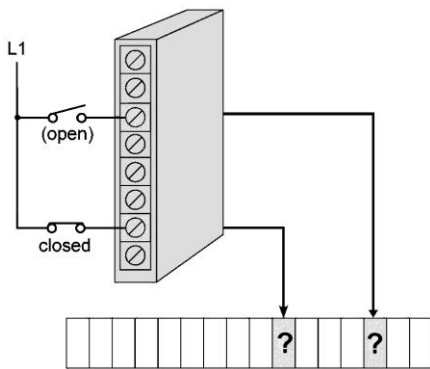

Figure 5-3 Input module for question 6.
6. For the input module of Figure 5-3, the data stored in the word corresponding to the open switch would be ___ and that for the closed switch would be ___, respectively. 6. _____